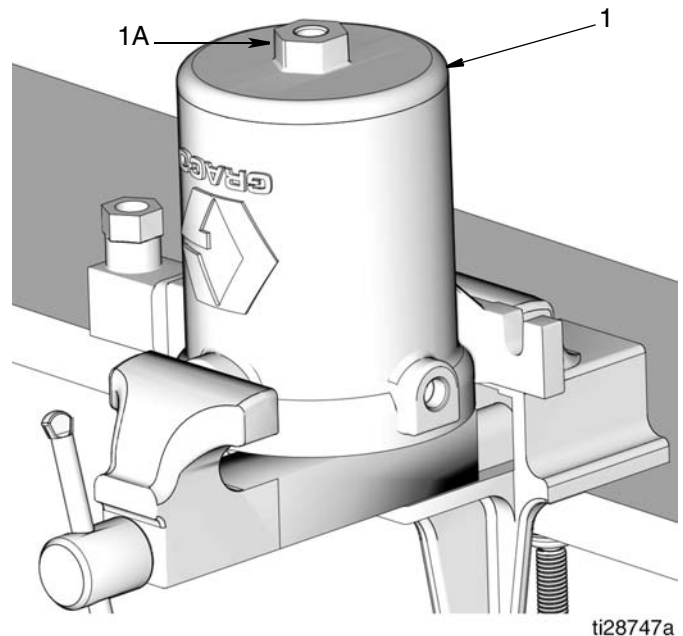

FIG. 19
16. Examine the piston assembly (33) for scratches and other wear and damage. If damaged, replace the pump piston assembly (33).
17. Reposition air motor cylinder in vise to access the bottom of air motor cylinder (FIG. 19).
18. Secure a wrench on the cover nut (1a). Turn it counter-clockwise loosen and remove the cover (1) from bottom of air motor cylinder. (FIG. 19).